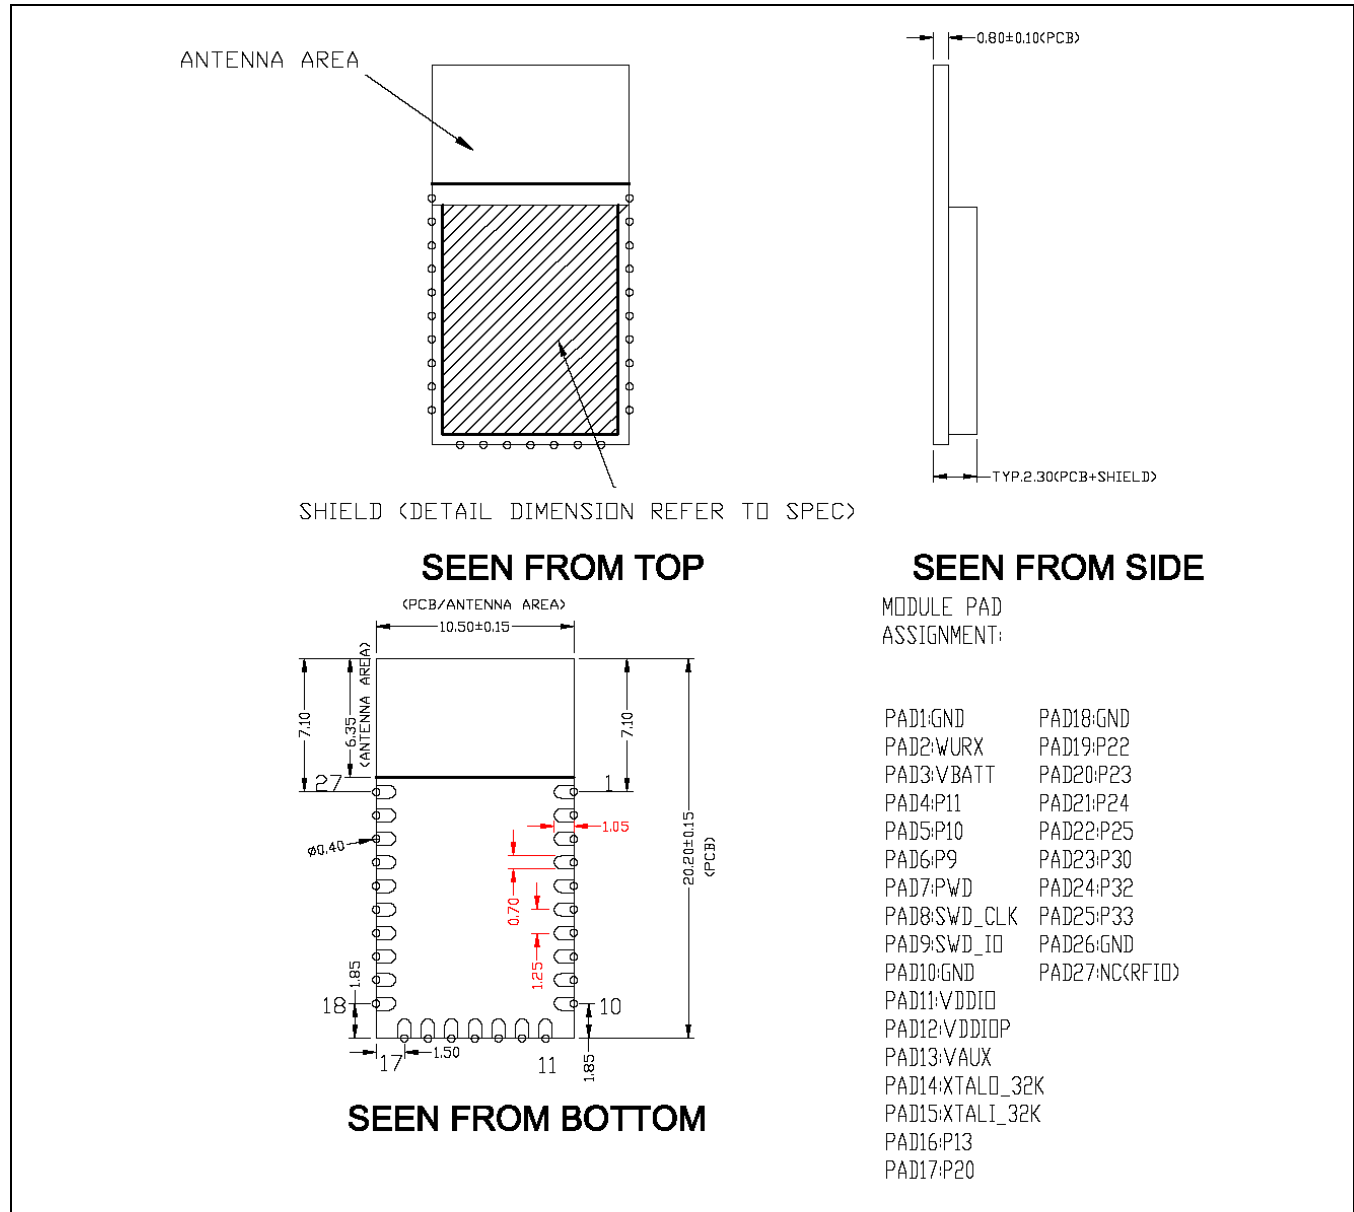
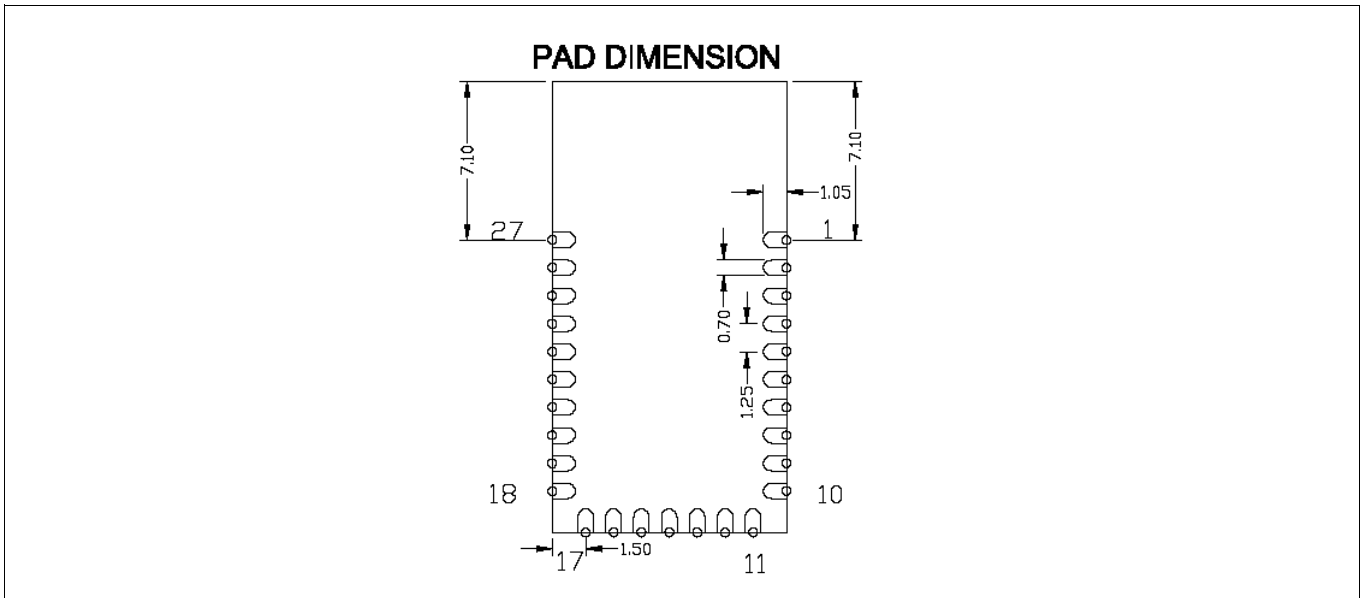

Figure 2 **Module mechanical drawing**
Figure 3 Solder pad dimensions (seen from bottom)
Infineon reserves the right to select components from various vendors to achieve the Bluetooth® module functionality. Such selections will still guarantee that all mechanical specifications and module certifications are maintained. Designs should be held within the physical dimensions shown in the mechanical drawings in Figure 2. All dimensions are in millimeters (mm).
See **Figure 2** for the mechanical reference drawing for CYW20822-P4xxI040.
As shown in the bottom view of Figure 2, the CYW20822-P4xxI040 connects to the host board via solder pads on the backside of the module. Table 2 and Figure 3 detail the solder pad length, width, and pitch dimensions of the CYW20822-P4xxI040 module.
1. Antenna Area Keepout: The host board directly below the antenna area of the module (see Figure 2) must not contain ground or signal traces. This keepout area requirement applies to all layers of the host board.
2. Module Placement: The ideal placement of the Bluetooth® module is in a corner of the host board with the PCB trace antenna located at the far corner. This placement minimizes the additional recommended keepout area stated in item 2. Refer to AN96841 for module placement best practices.